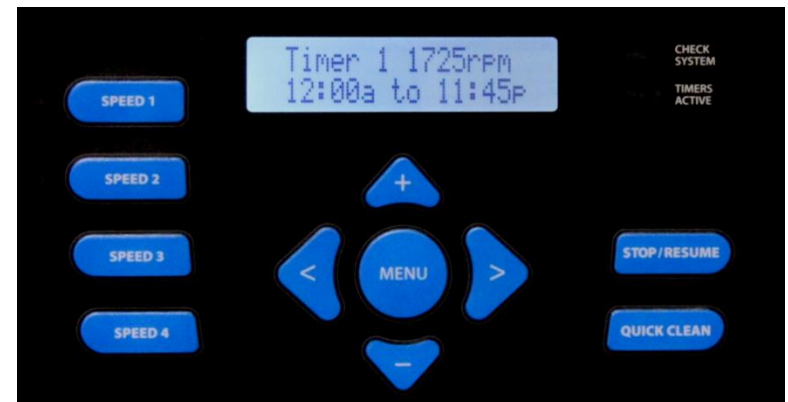

Fig 52
2. Timer 1 will be factory set to 1725 rpm (50%), 7 day operation from 12 am to 11:45 pm (fig 52). This is used to run the pump if the data link fails on control connected pumps. Timer 1 can be changed as needed. .